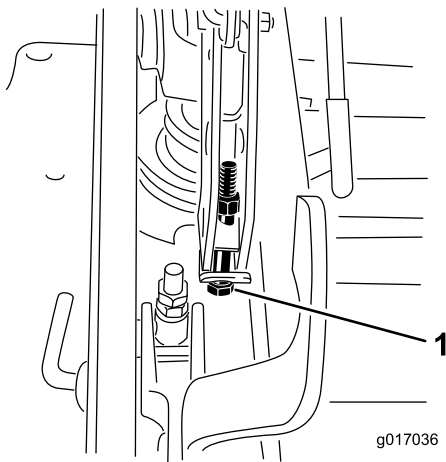

Figure 97
- If the deck is too low, tighten the single-point adjustment bolt by rotating it clockwise. If the deck is too high, loosen the single point adjustment bolt by rotating it counterclockwise (Figure 97).
- Tighten the 2 bolts at the bottom of the height-of-cut plate (Figure 97).